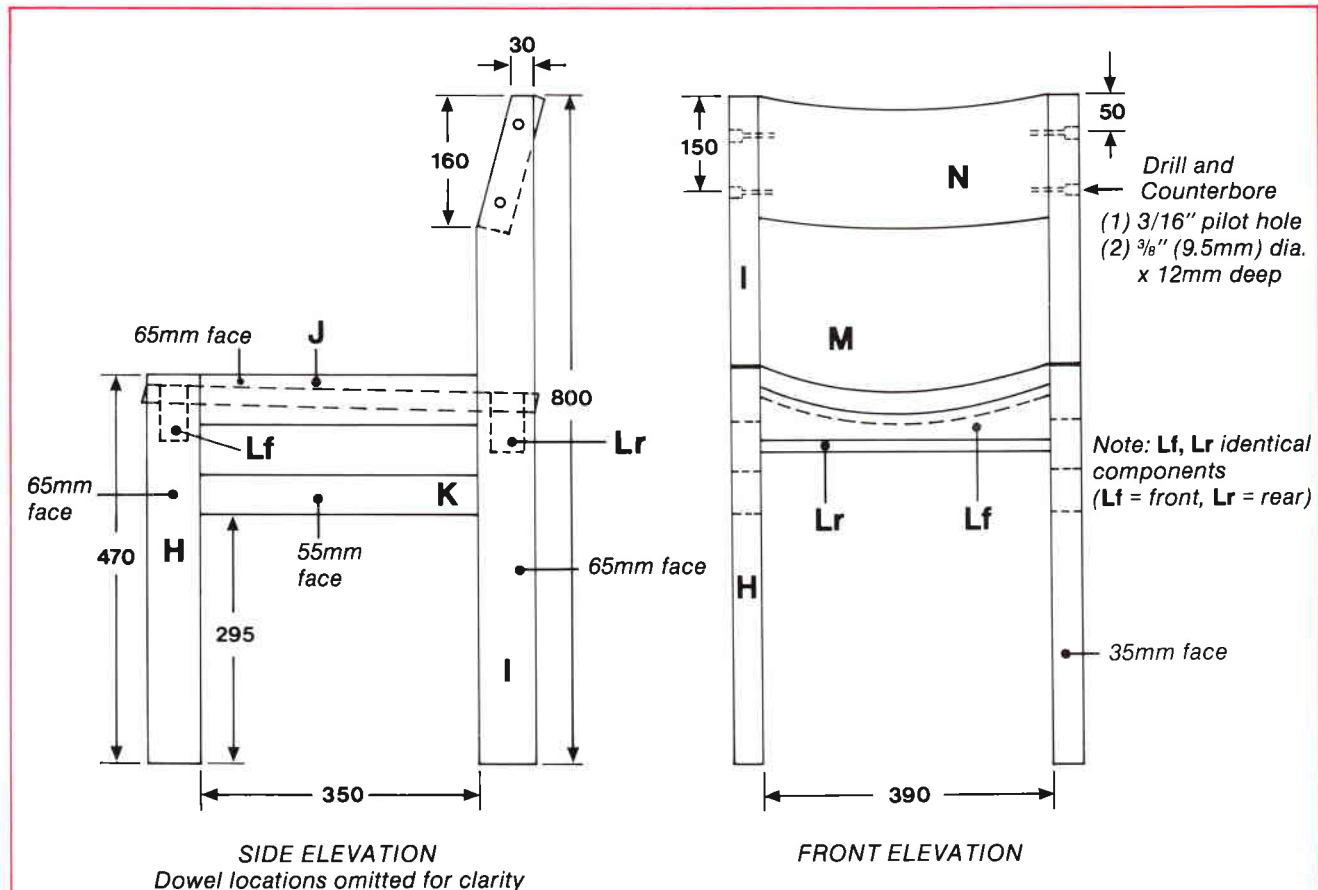

FIGURE 6
**1** Cut to exact length components **H**, **I**, **J**, **K** and **L**. Label each part on its end. Mark out the taper required on the top of the rear legs (**I**), and cut the taper using a taper ripping jig. The side elevation (**Figure 6**) gives the dimensions for marking out the tapers.
The backrests are attached as shown in the front elevation drawing (Figure 6), with the required counterbored large holes hidden by inserting matching timber plugs.